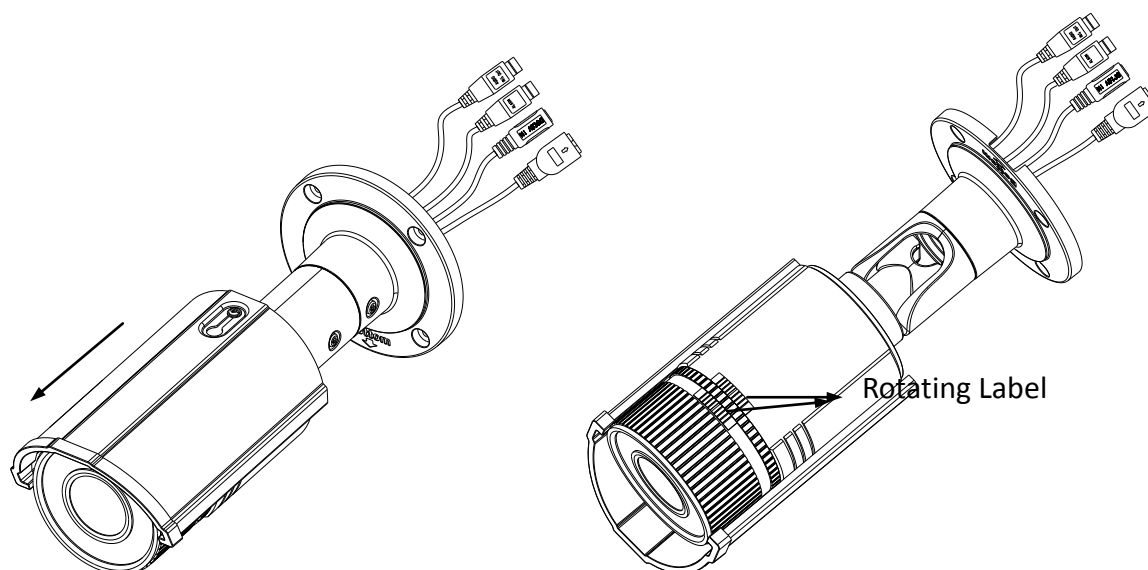

Figure 4-28 Assemble the Camera
6. Slide the sun shield according to the arrow direction as shown in Figure 4-28(left).
**Note:** For water-proof, please align the rotating label on the front cover with that on the camera when you rotate the front cover clockwise. Refer to Figure 4-28(right).